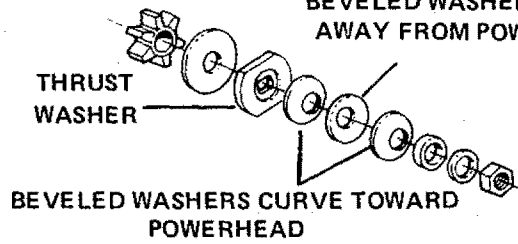

Figure 46
- Slide washer, collar, the three beveled washers, flat-sided thrust-washer and inner washer from shaft. Figure 46.
NOTE: Be sure the 3 beveled washers face in the directions shown. Figure 46.